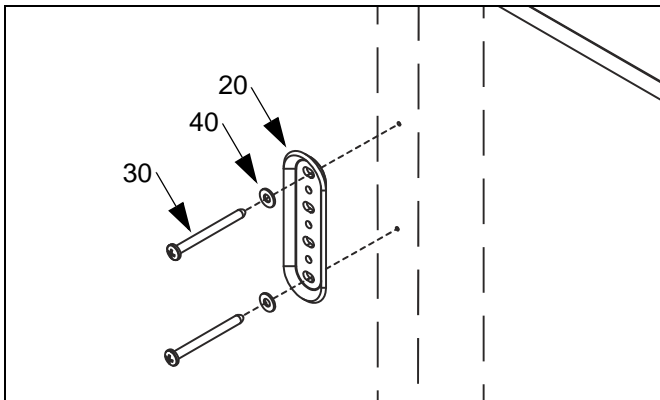

Figure 1: Install Wall Bracket
2. Determine location for mount keeping in mind display size, extension, height adjustment (if applicable), and pitch/roll requirements. Bracket (20) **MUST** be installed into wood stud.
3. Using bracket (20) as a template, drill two 1/8" diameter pilot holes through top and bottom holes of bracket (20) into wall structure (See Figure 1).
4. Using Phillips screwdriver, install screws (30) through washers (40), bracket (20), and drywall into wood stud (See Figure 1). Ensure bracket (20) is vertical, then tighten screws (30).